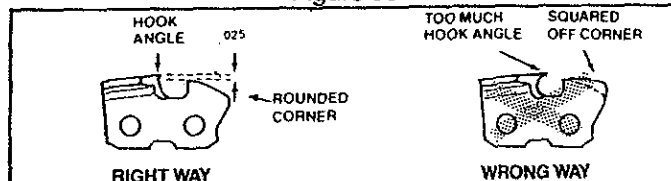

Figure 37
- Maintain rounded front corner of depth gauge with a flat file. Figure 37.